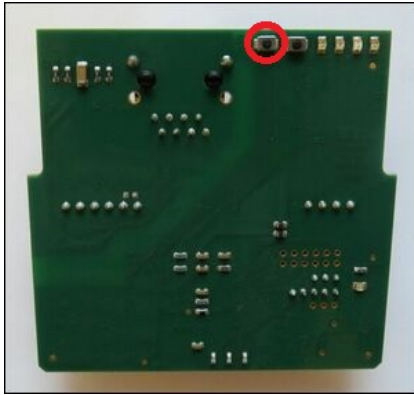

Figure 69
1. If an Ethernet module with unknown IP address e.g. should be used at a demo installation, a factory reset must be made to set the Ethernet module back to its default values. To make a factory reset, press and hold the button marked in Figure 69 while powering up the Ethernet module.